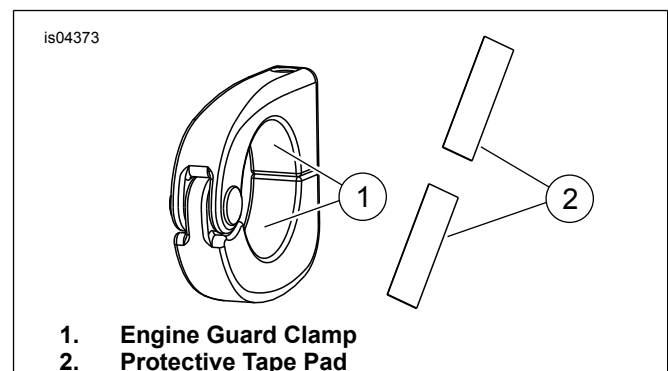

Figure 2. Install Protective Tape Pads
2. See Figure 2. Attach protective tape pads (2) to each inside half of engine guard clamps (1).